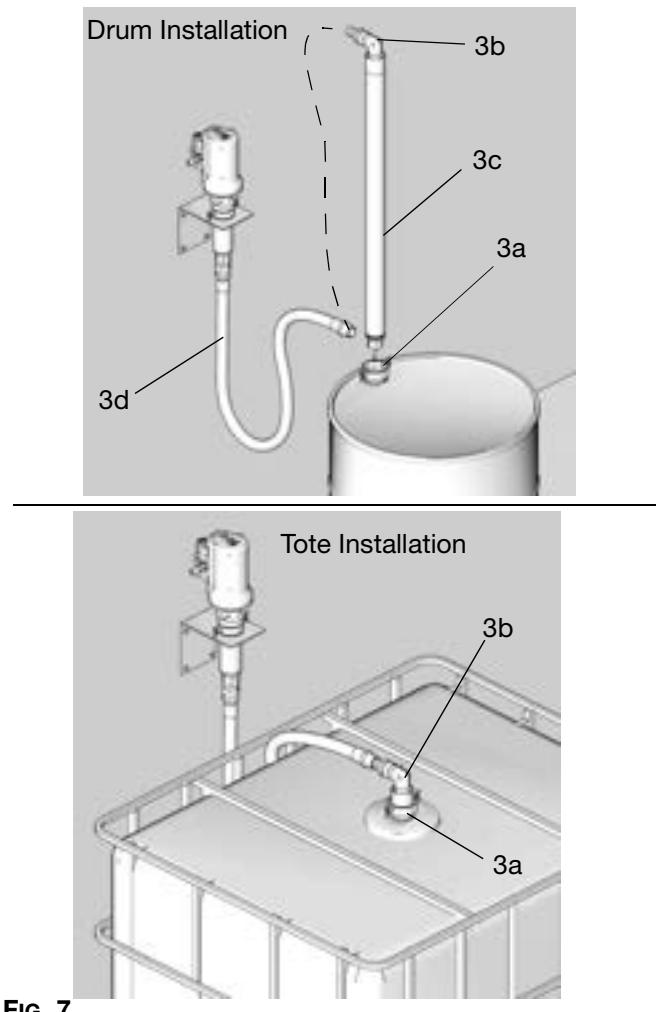

FIG. 7
5. Thread the bung adapter (3a) into the hole in the drum cover or tote. Hand tighten securely (Fig. 7).
6. Connect the swivel fitting (3b) to the suction tube (3c) and then slide the suction tube into the bung adapter (3a) installed in the drum or tote cover. Connect one end of the suction hose (3d) to the pump inlet and the other end to the swivel fitting (3b) (FIG. 7).